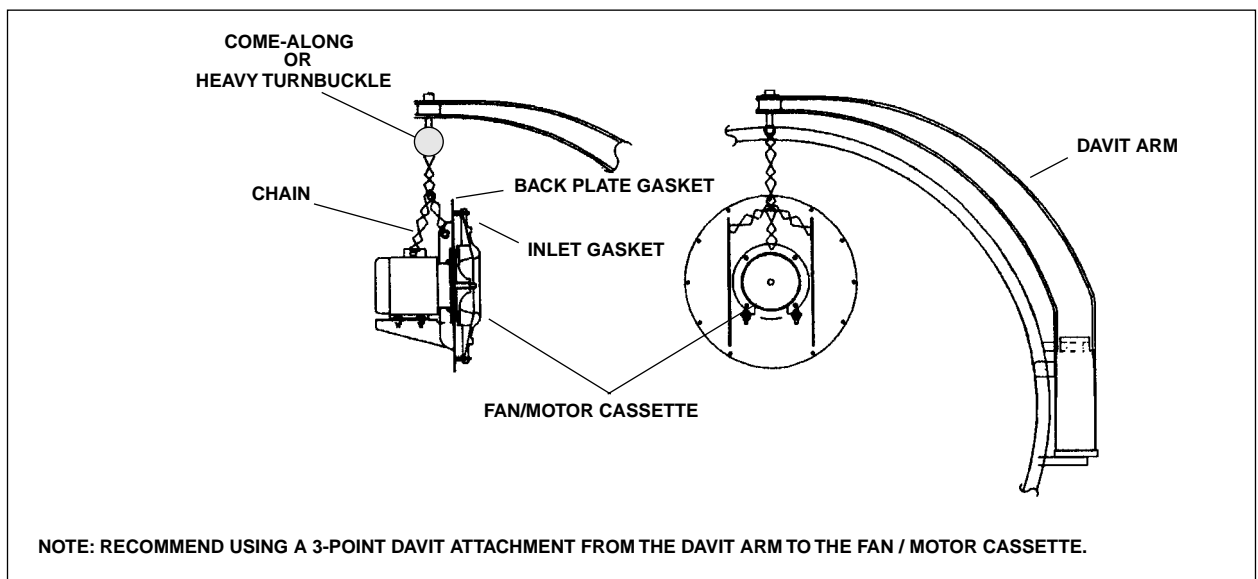

Figure: 1-16 Fan/Motor Cassette
5. Fan/Motor Cassette (Figure 1-16). The fan and motor assemblies are designed as a cassette so that they can be removed from the front of the boiler, without opening the front door. The front door davit arm can be used to remove the assembly (Figure 1-16).